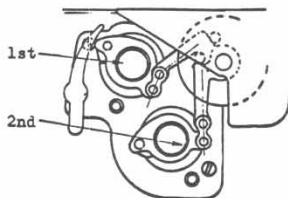

Fig.4-13
- 4 Set the damper gears so that the arms come into the place as shown in Fig. 4-13, by turning the damper gears.